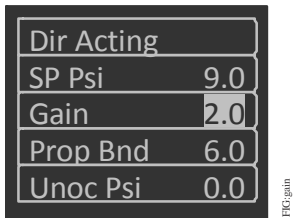

Figure 12: Changing the Gain/Sensitivity
9. Change the **gain/sensitivity** as desired (Figure 12).